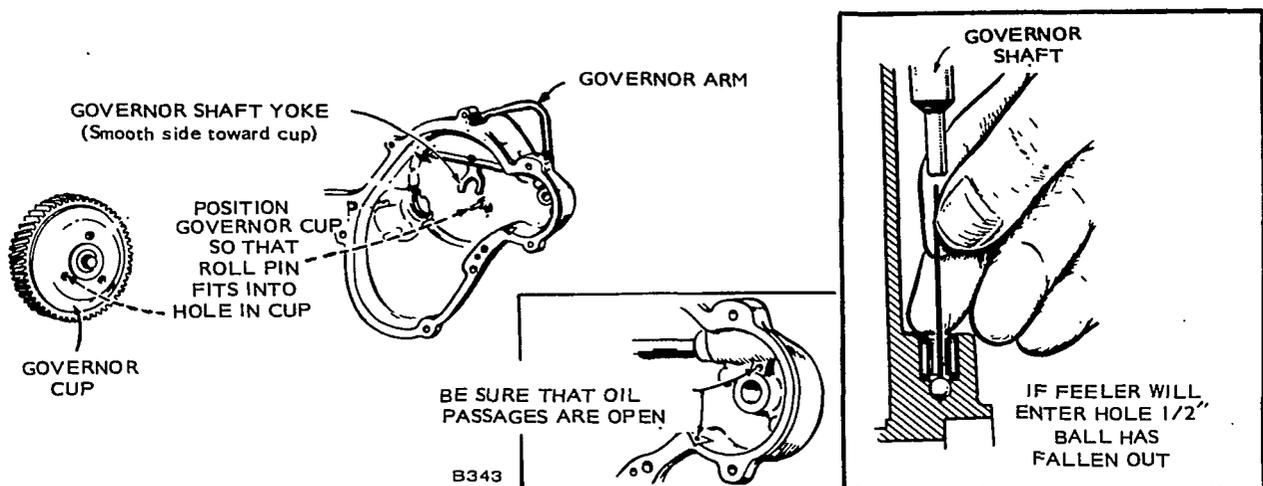

FIGURE 55. GEAR COVER ASSEMBLY
Governor Shaft: The governor shaft is supported by two sets of needle bearings. To remove the shaft, remove the yoke and pull the shaft from the gear cover. If the shaft is binding, clean the bearings. If loose, replace the bearings. To remove the larger bearing, drive both bearing and oil seal out from the outside of the gear cover. Remove the smaller bearing with an Easy-Out or similar tool. Press new bearings and oil seal into place. See Figure 55.
1. Work governor shaft to check for binding and see that the governor shaft end-thrust ball is in place, Figure 55.
3. Turn governor cup so stop pin in gear cover will fit into one of the holes in the cup surface (Figure 55). Measure distance from end of stop pin to mounting face of cover. It should be $25/32$ inch (19.844 mm). If it is not, replace pin. Pin should be positioned with open end facing crankshaft seal.